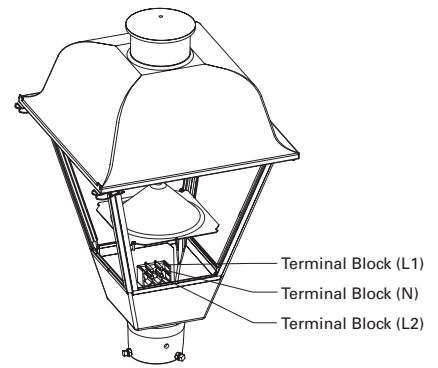

FIG. 3
3. Connect service leads to the appropriate position with the terminal block. **(FIG. 3)**
6. Connect service leads to the appropriate position with the terminal block. (FIG. 3)